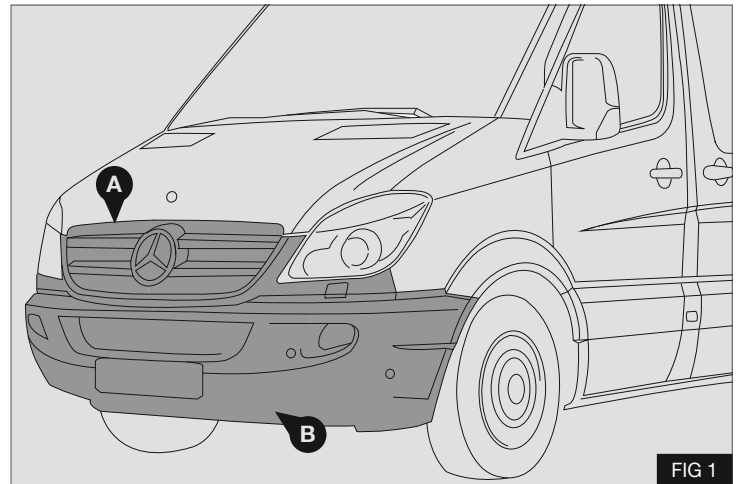

FIG 1
1. Remove the front grill (A) and bumper (B) from the vehicle - Fig 1